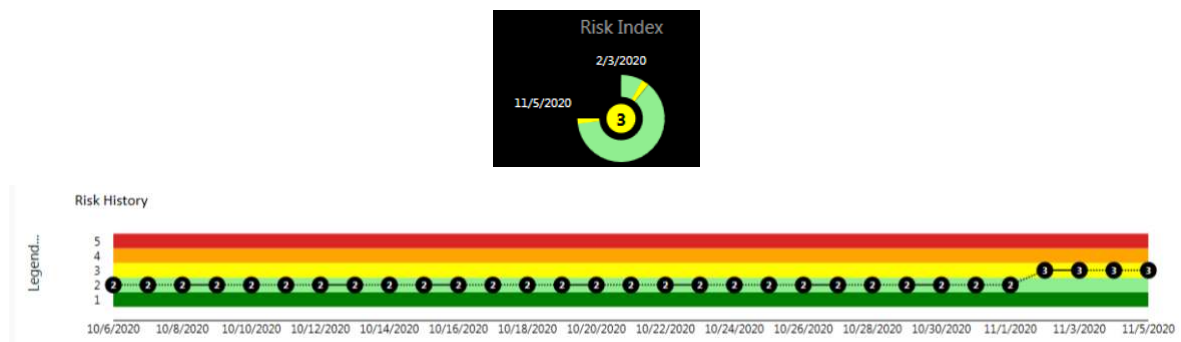

Figure 1 : Risk Index of TR 4 Under Study.
According to Figure 1, during the period from October 6th, 2020 to November 1st, 2020, TR 4 risk index is in the light green zone (2) indicating stable transformer condition. In November 3rd, 2020 a significant increase in the transformer risk index occurred. Turning from light green zone (2) to the yellow zone (3) which reveals a concern gas increase. This report will indicate the reasons to that increase in both transformers.